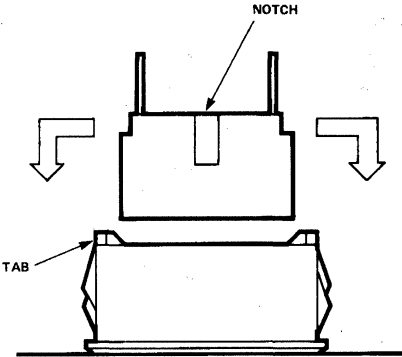

Figure 1. Installation of a Light Bar into a Panel Mount.
2. Place the front of the mount against a solid, flat surface. A film legend with outside dimensions equal to the outside dimensions of the light bar may be placed in the mount or on the light bar light emitting surface. Press the light bar into the mount until the tabs snap over the back of the light bar^[4]. When inserting the HLMP-2898, align the notched sides of the light bar with the mount sides which do not have the tabs. (See Figure 1.)